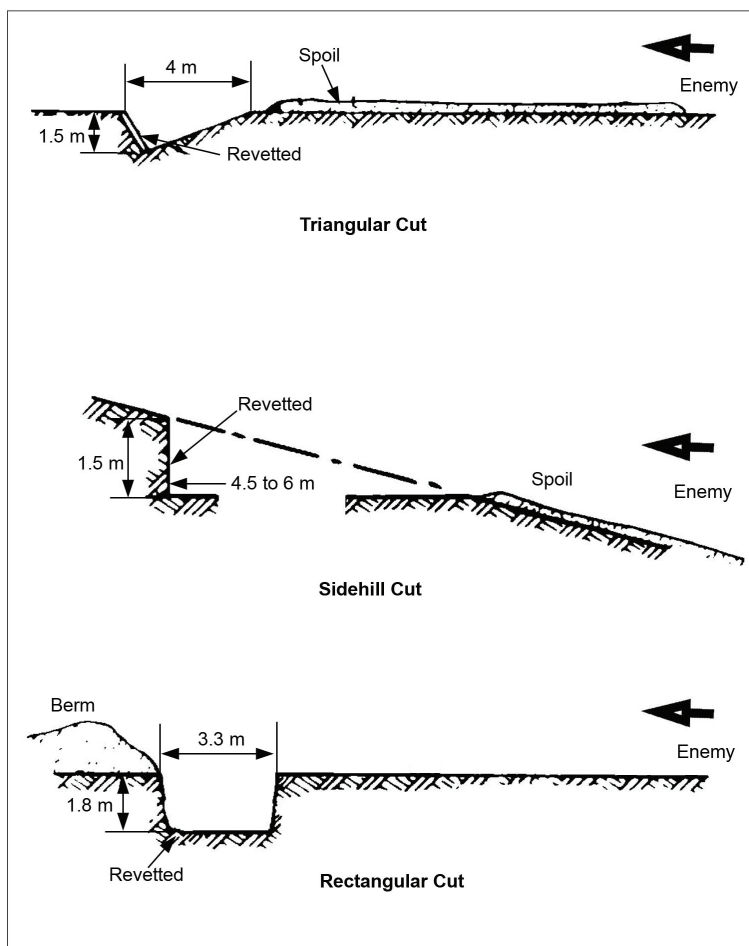

Figure 052-195-3066-6. AT ditch obstacles
3. Direct the construction of antitank (AT) ditch obstacles (figure 052-195-3066-6).